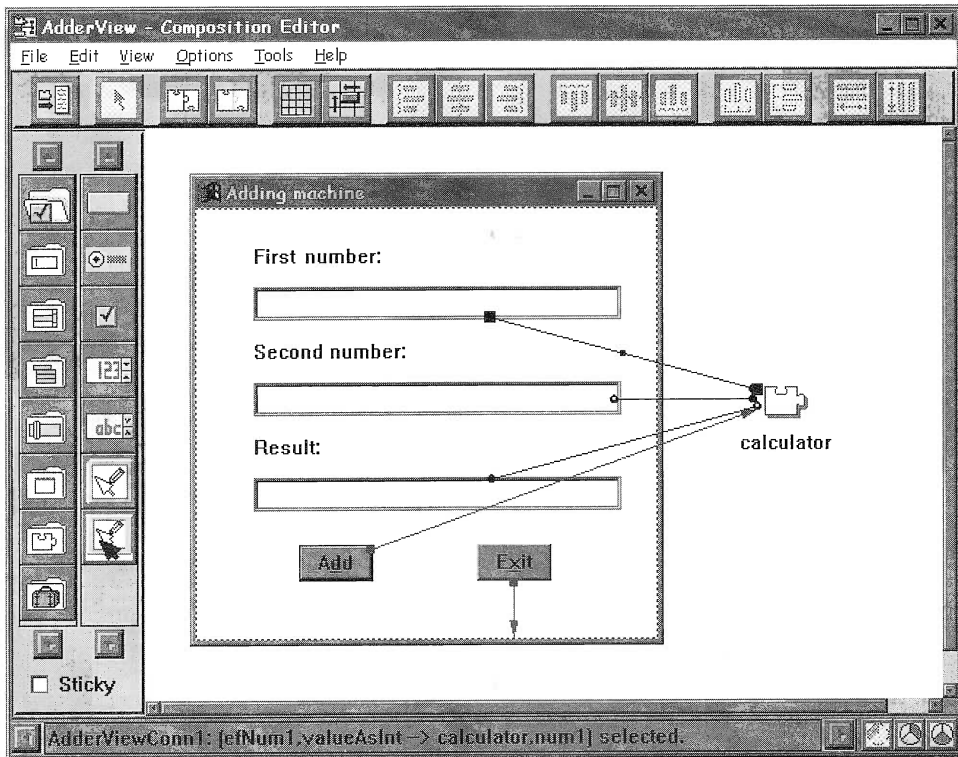

Figure 62: Completed Adding Machine
- ❑ Directly edit the title bar (Alt+left mouse button) and change the title to **Adding Machine**. The Composition Editor should now look like Figure 62.